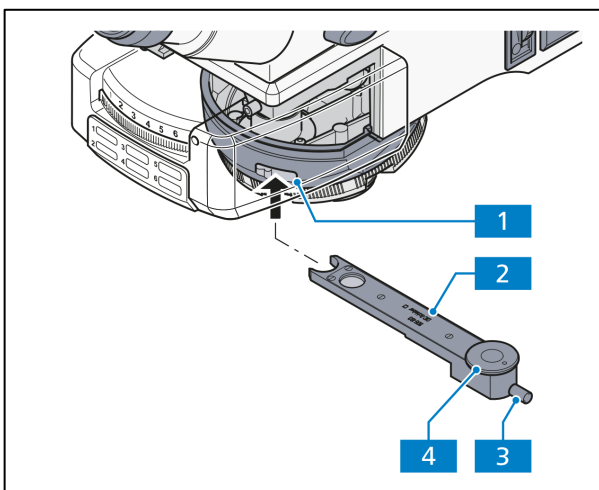
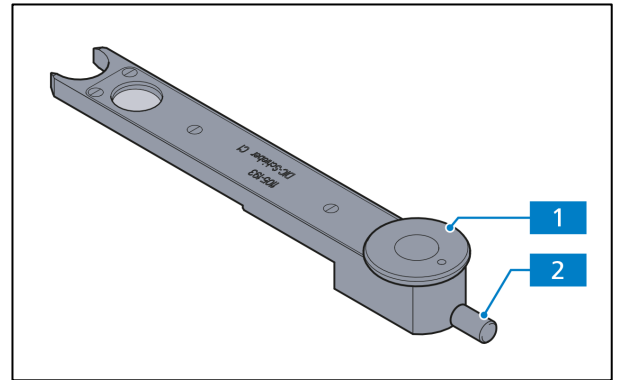

Fig. 4-16 Compensator slot 6x20 mm with C-DIC slider 6x20 mm
Fig. 4-17 TIC slider 6x20 mm
(4) Reflected light C-DIC
- Slide the C-DIC slider (Fig. 4-16/2) into the 6x20 mm compensator slot (Fig. 4-16/1).
- Place the sample on the stage, focus and turn the control knob (Fig. 4-16/4) on the C-DIC slider so the structure of interest is visible with maximum contrast. No further stage rotation is necessary.
- The contrast can be optimized by adjusting the control knob (Fig. 4-16/3) on the C-DIC slider.
(3) Setting reflected light TIC
- Slide the 6x20 mm TIC slider in the compensator slot 6x20 mm (Fig. 4-16/1). You will see chromatic interference stripes in the field of view. Using the control knob (Fig. 4-17/2) of the TIC slider, move the black interference stripe by sight to the middle of the field of view.
- To choose the structure to be measured, turn the knob (Fig. 4-17/1) on the TIC slider until the interference stripes are vertical to the direction in which the specimen is broken down (see Fig. 4-18). The interference stripes can be shifted with the aid of the control button (Fig. 4-17/2).